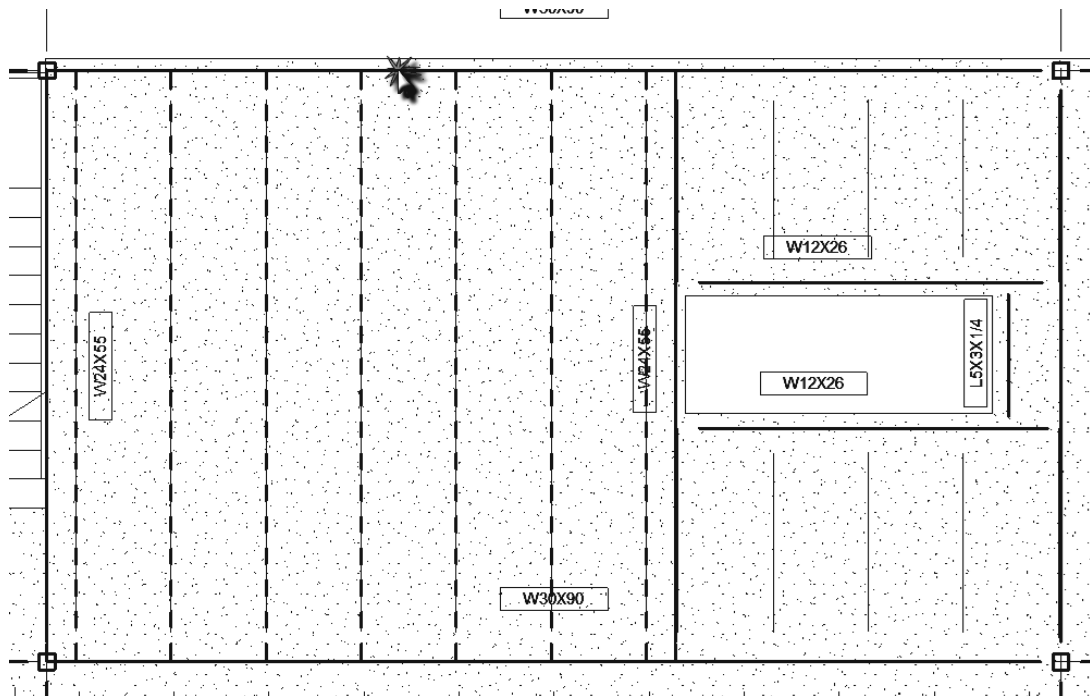

FIGURE 8-6.10 Placing a beam system symbol
- Hover over the *Beam System* until it highlights with heavy dashed lines as in Figure 8-6.10, and then **click**.